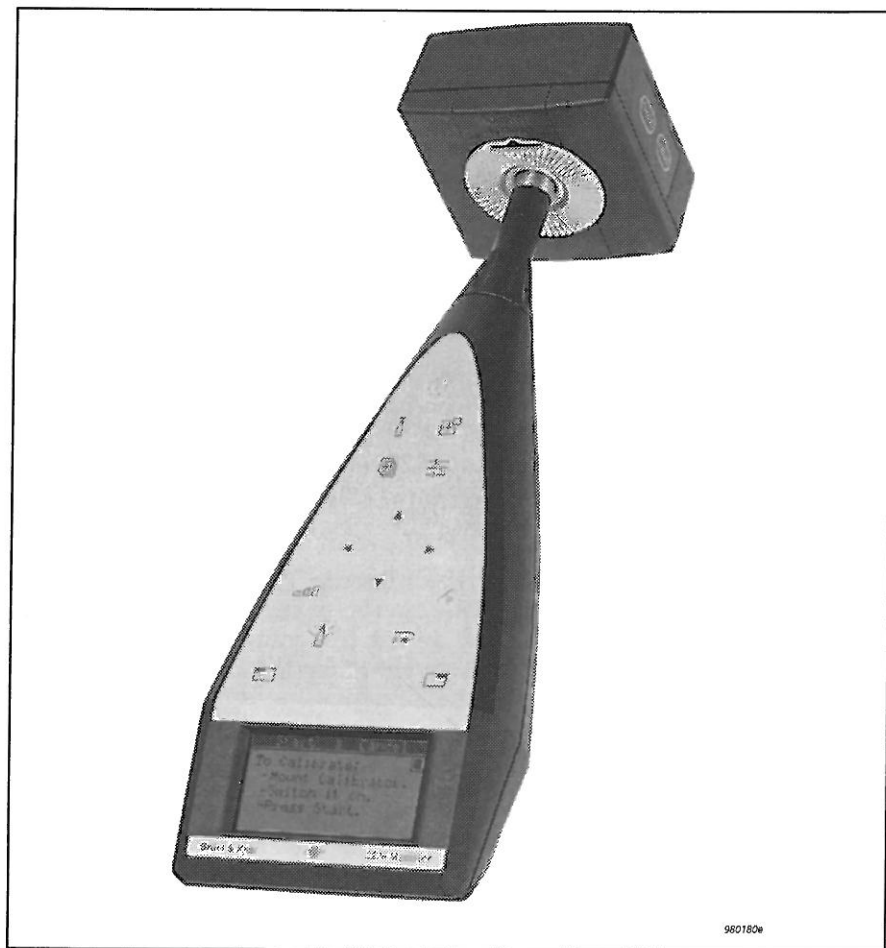

Fig.5.1 Fitting Sound Level Calibrator Type 4231 onto the Mediator. Multifunction Acoustic Calibrator Type 4226 is fitted in a similar way (see its manual)
3. Press Calib. and Fit the calibrator carefully onto the sound level meter and rest the sound level meter on a table or other flat surface. Ensure that the calibrator fits snugly on the microphone (see Fig.5.1).